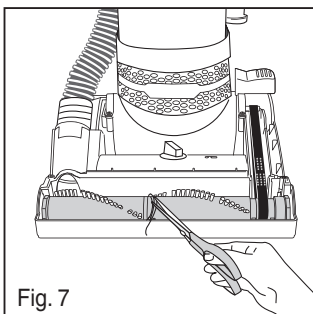

Fig. 7
- 2) Use scissors to clip hair and threads (Fig. 7).